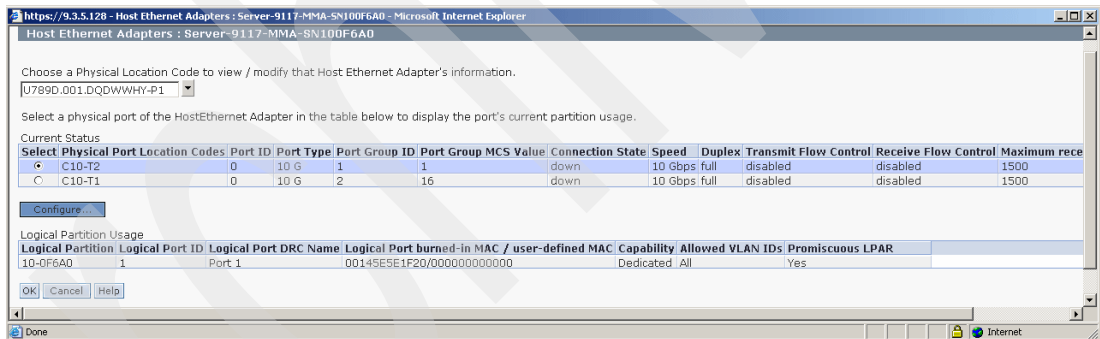

Figure 4-2 HEA configuration first step
- ▶ On the new Host Ethernet Adapter window (as shown in Figure 4-2):